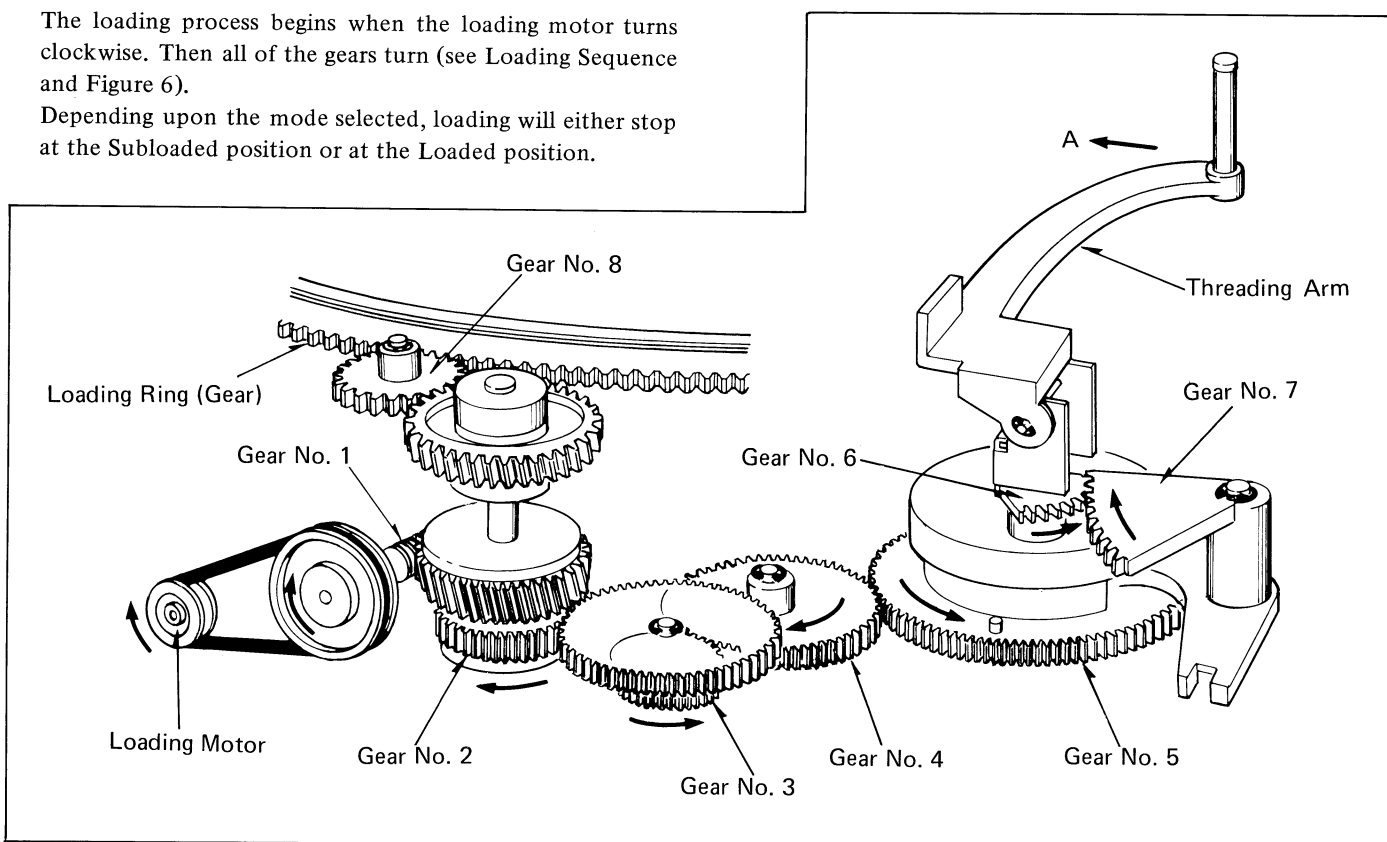

Fig. 6
The loading process begins when the loading motor turns clockwise. Then all of the gears turn (see Loading Sequence and Figure 6).
In Figure 6, note that the threading arm and Gear 6 are one piece which is not attached to Gear 5. Gear 5 has a pin (A) which fits a fork or slot in the bottom of the Gear 7 piece. This means that Gear 7 will only move about 90°, even if Gear 5 continues to rotate (See Fig. 8).